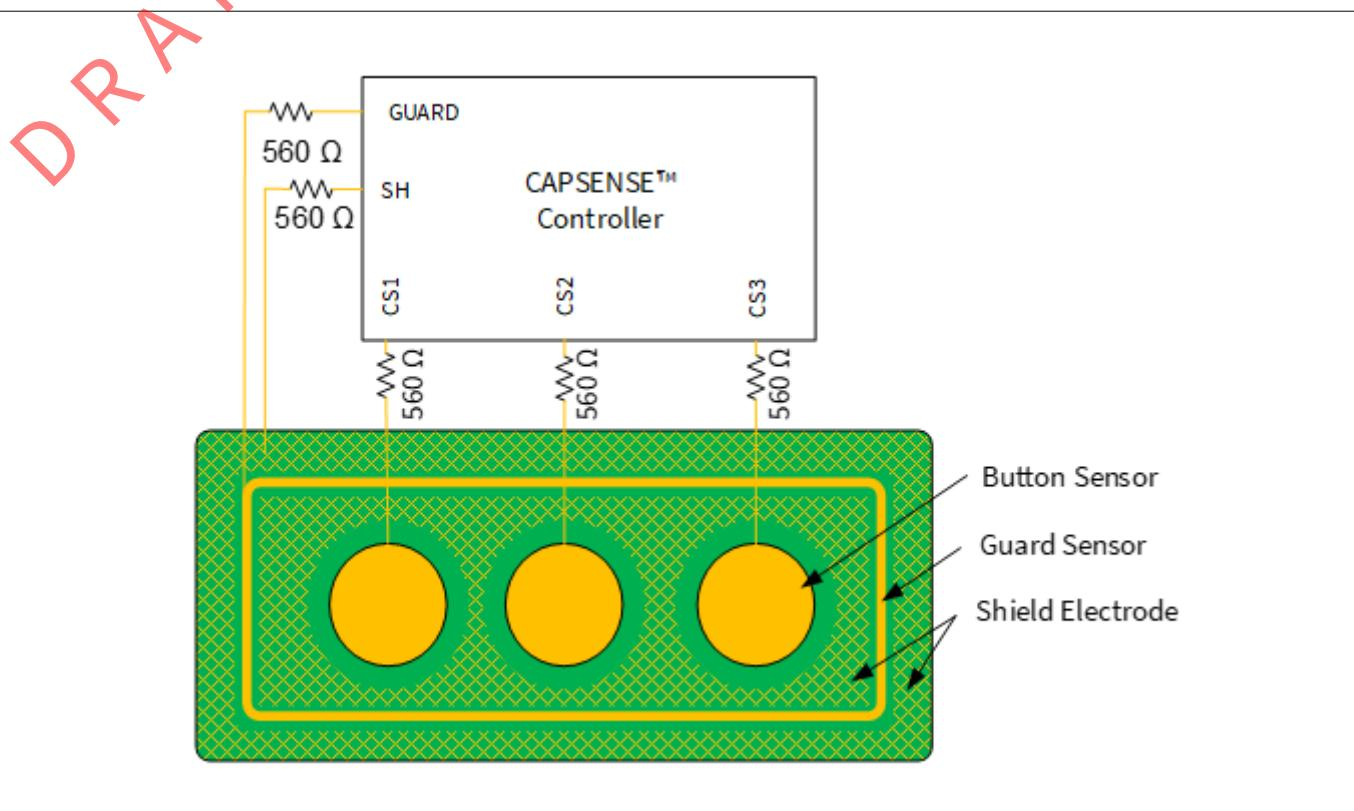

Figure 213 Shield electrode (SH) and guard sensor (GUARD) connected to CAPSENSE™ controller
- To prevent sensor false triggers due to a liquid flow, you should implement a Guard sensor as Figure 213 shows. The Driven shield signal and shield electrode can be used to detect the presence of a streaming liquid and ignore the status or stop the sensing from rest of the sensors as long as the liquid flow is present
- To compensate for changes in raw count due to liquid droplets for self-capacitance sensing, you can implement a Driven shield signal and shield electrode as Figure 213 shows. When a shield electrode is implemented, CAPSENSE™ reliably works and reports the sensor ON/OFF status correctly, even when liquid droplets are present on the sensor surface. To prevent sensor false triggers due to liquid droplets for mutual-capacitance sensing, you can use both the sensing methods that is, mutual capacitance and self-capacitance with Driven shield signal and shield electrode on the same set of sensors as Using self-capacitance sensing for liquid tolerance of mutual-capacitance sensors explains
In summary, if your application requires tolerance to liquid droplets, implement a Driven shield signal and shield electrode. If your application requires tolerance to streaming liquids along with liquid droplets, implement a Driven shield signal and shield electrode and a Guard sensor as shown in Figure 213. Follow the schematic and layout guidelines explained in the Layout guidelines for liquid tolerance section to construct the shield electrode and guard sensor respectively.